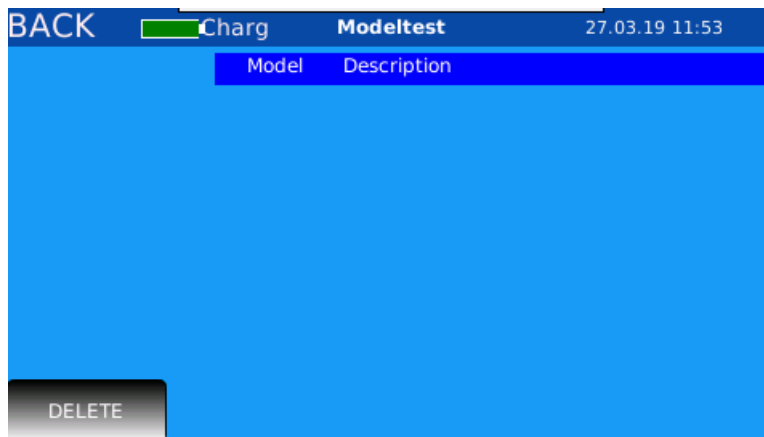

Figure 11. Endevco 2215 was deleted from the unit and will no longer appear unless re-imported.
- b. The sensor will be deleted from the database (*Figure 11*).